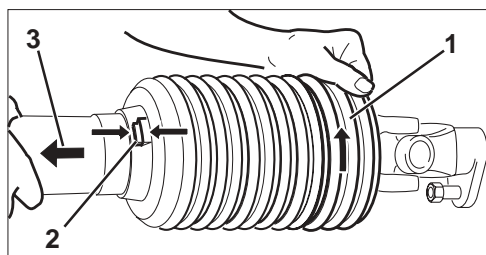

Fig. 5.4
- Twist cone (Fig. 5.4/1) into fitting position (Fig. 5.4/2).
- Pull off (Fig. 5.4/3) protective half.